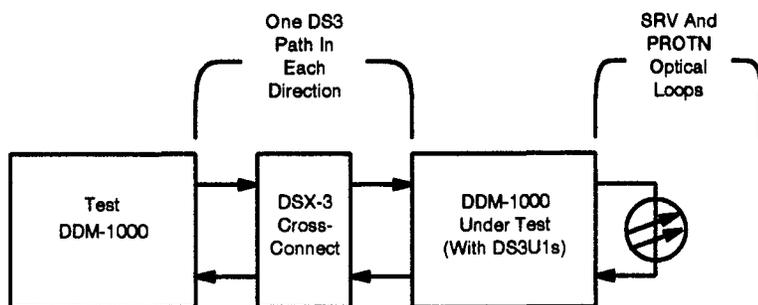

Figure 1. Test Setup With Test DDM-1000
11. Connect the system as shown in **Figure 1**. Connect only one DS3 path in each direction. Loop both the **SRV** and **PROTN OLIUs** back on themselves.
7. Refer to **Figure 1** and install the **SRV ED-2C833-20, G(17-20)** cable assembly on backplane as follows: